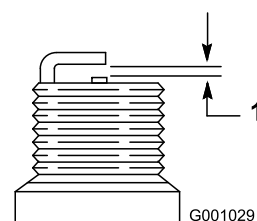

Figure 35
4. Set the gap between the electrodes on the spark plug at 0.030 inch (0.76 mm) (Figure 35).